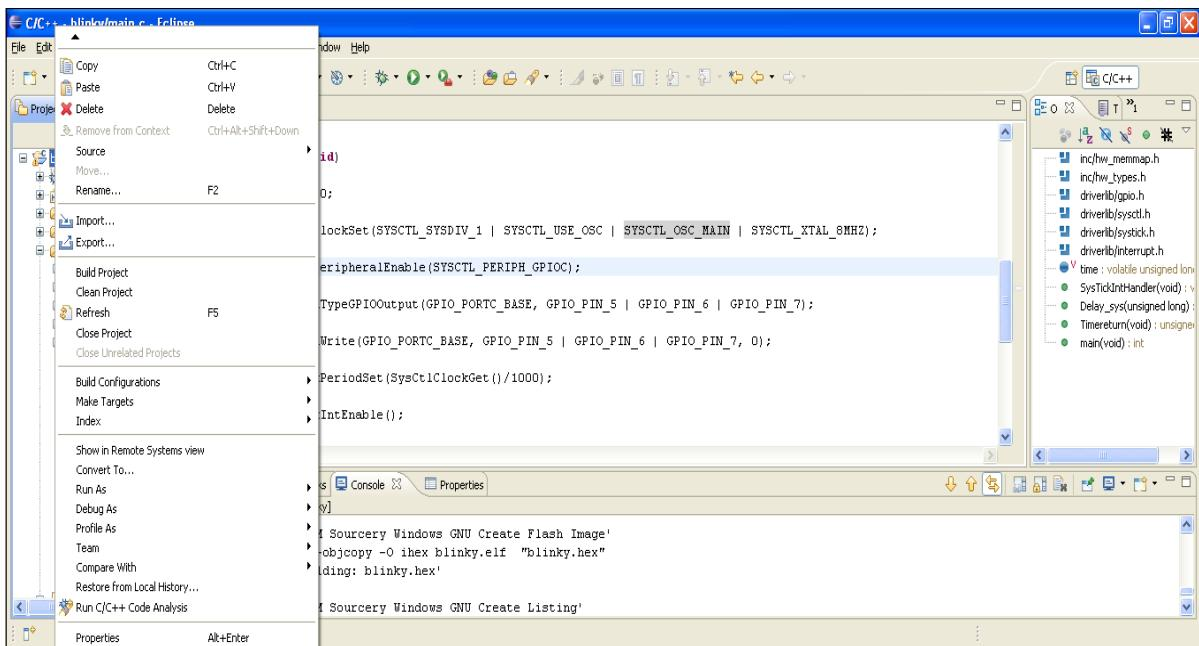

Figure 11.21 Build and Clean Project
- Your screen should look similar to that shown in Figure 11.21
- Right click on the project opened in the workspace, go to Build Configurations and build and clean the project. Shown in Figure 11.21. If everything goes right, it will build and clean with ease.